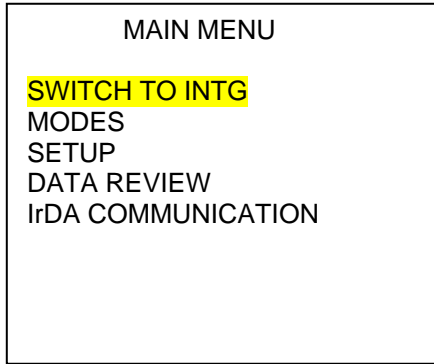

Figure 2-5. Main Menu Display
- c. When the “SEL” key is pressed, from the normal operating screen, the instrument will then display the main menu screen (see Figure 2-5).
Changing to the main menu screen (see Figure 2-5) can be accomplished by pressing the “SEL” key while the normal operating screen is displayed.